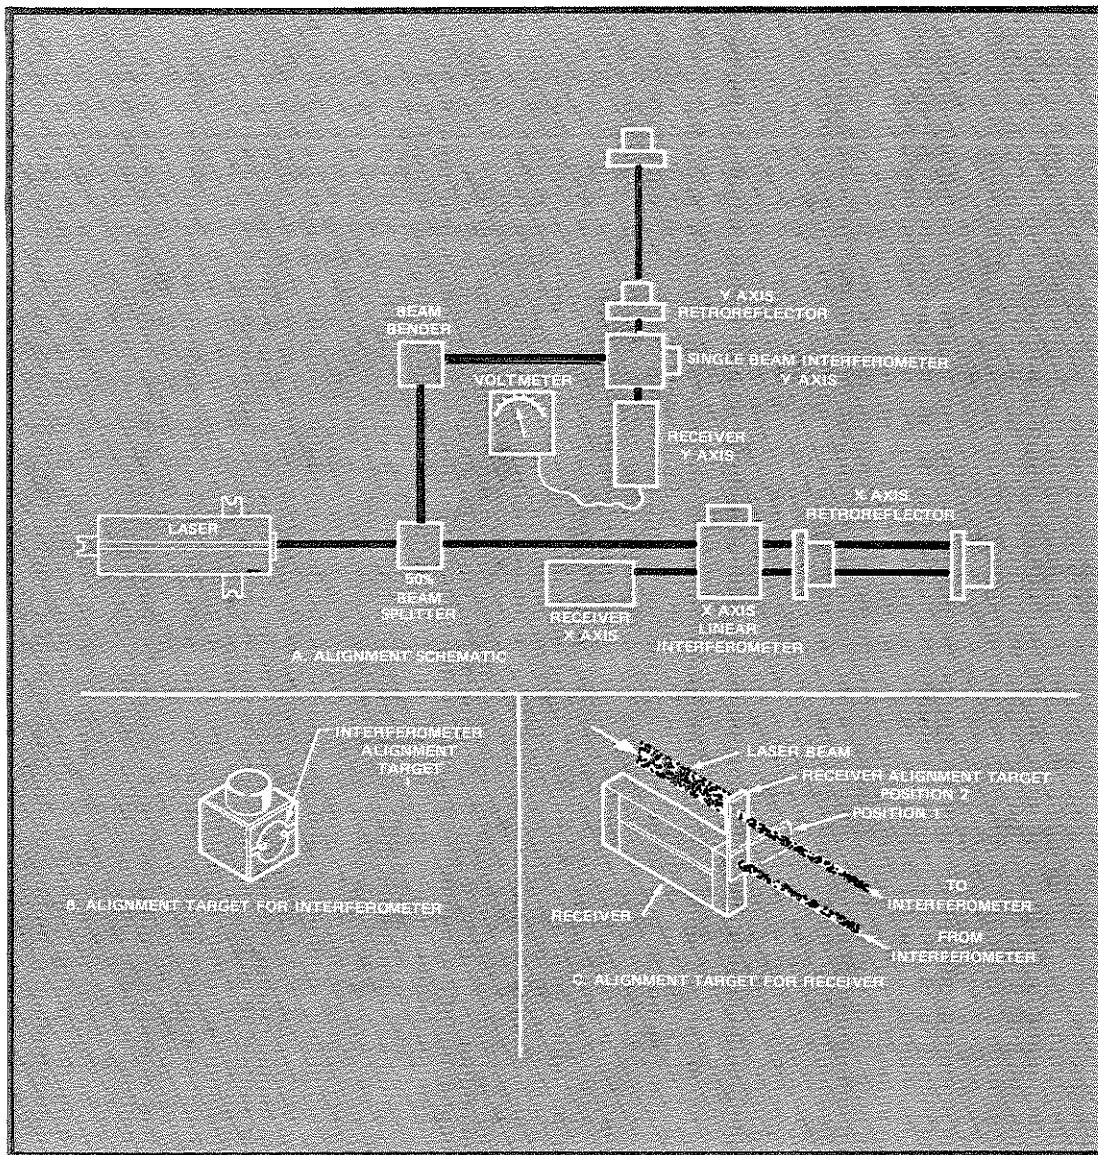
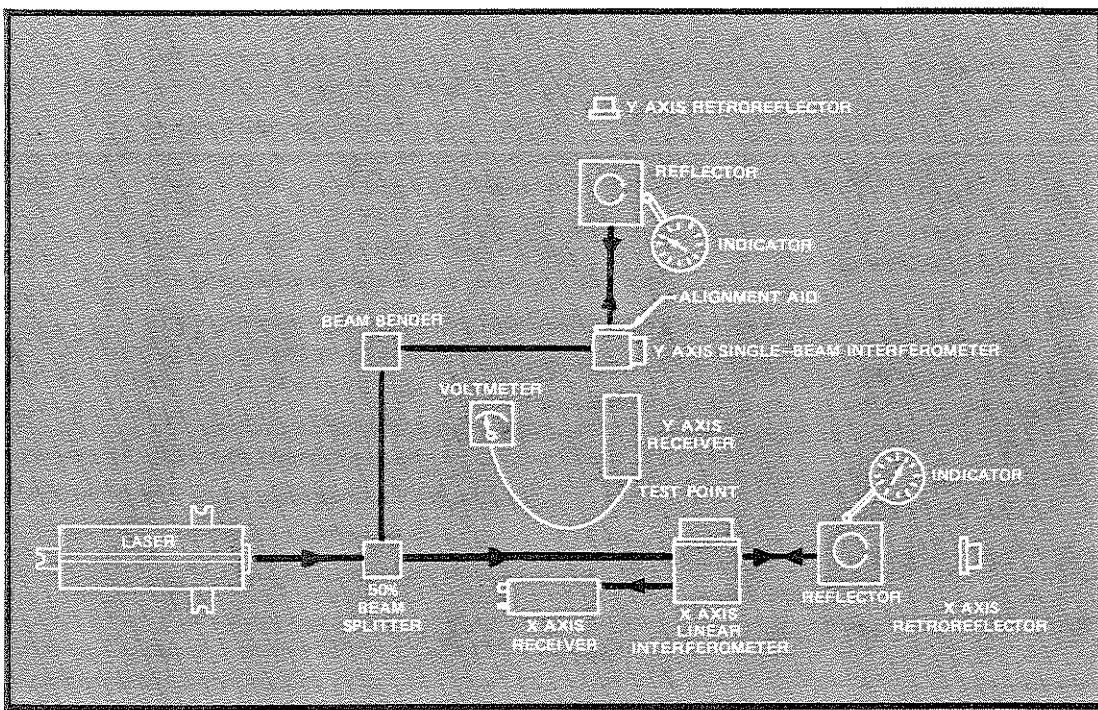

Figure 2-53. Visual Alignment
Figure 2-54. Autoreflection Alignment
The techniques describing the two-axis visual alignment procedure can be followed for almost any measurement configuration. *Figure 2-53* is a typical measurement configuration which includes a linear interferometer and a single beam interferometer. In general, when the optical components are installed on the machine, their optical centerlines will be nominally in the correct relationship and only minor adjustments should be required.
When starting the adjustment procedure, one-axis at a time is adjusted. The first axis to be adjusted is the axis where any angular adjustment of the laser beam requires adjustment of the 5501A Laser Transducer (see X-axis, *Figure 2-53*). After angular adjustment, the laser head is locked down and any angular adjustment of the laser beam in the other measurement axes is accomplished by rotating the optical components. For visual alignment of the measurement system in *Figure 2-53*, perform the following procedure:
Figure 2-54 shows a measurement setup similar to Figure 2-53 except that the autoreflection technique is used for alignment.
For autoreflection alignment of the measurement system in Figure 2-54, perform the following procedure:
16. Place alignment aid over output aperture of single beam interferometer as shown in Fig. 2-54. Edges of alignment aid must be parallel to sides of single beam interferometer housing. Adjust the single beam interferometer angularly until the return beam reflected from the reflector returns and is centered on the small aperture of the laser head. Slight lateral adjustments of the interferometer may be required to ensure that the reference beam from the interferometer is centered on the receiver alignment target. Do not adjust the laser head.